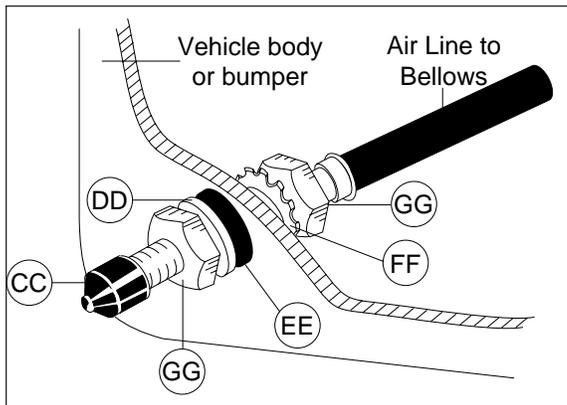

Figure 8
4. Place a $\frac{5}{16}$ " nut (GG) and a star washer (FF) on the air valve. Leave enough of the valve in front of the nut to extend through the hole and have room for the rubber washer (EE), flat washer (DD), and $\frac{5}{16}$ " nut (GG) and cap (CC). There should be approximately $\frac{1}{2}$ " of the valve exposed after installation to easily apply a pressure gauge or an air chuck (Figure 8).
5. Push the inflation valve through the hole and use the rubber washer (EE), flat washer (DD), and another $\frac{5}{16}$ " nut (GG) to secure it in place. Tighten the nuts to secure the assembly in place (Figure 8).